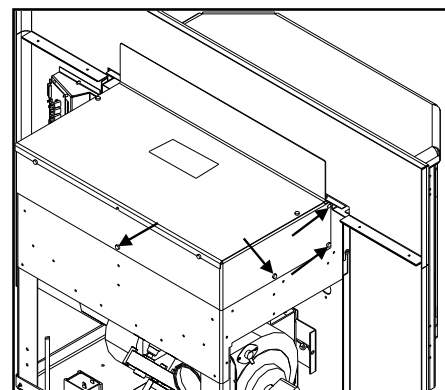

Figure 25: Hopper Extension Screw Placement
To change the height of the hopper back up or down, remove the seven (7) T-20 screws, three (3) on each side and one (1) on the back. The screw placement is shown Figure 25. Move the hopper assembly to the required setting and replace the screws. When the hopper back is in place it is recommended that silicone is used to seal the bottom lip of the hopper back and sides.